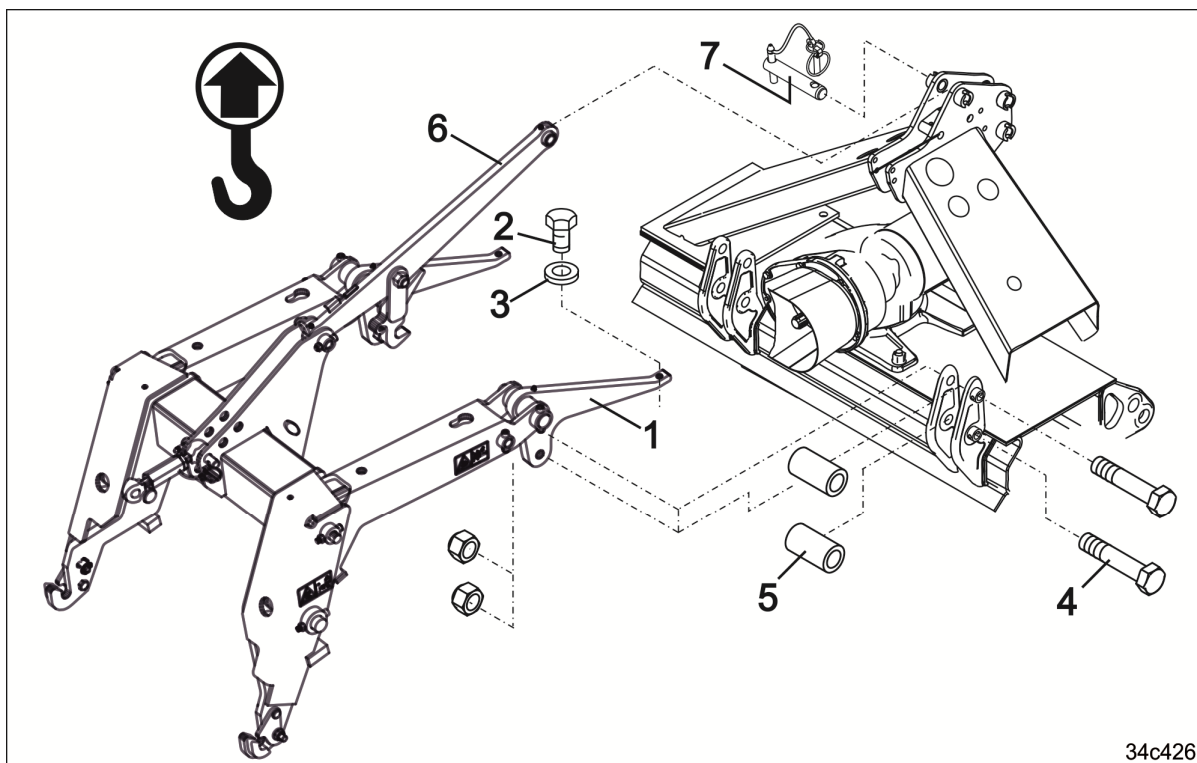

Fig. 81
5. Screw the bracket (Fig. 81/1) to the soil tillage implement using
- o two implement bolts (Fig. 81/2) with washers (Fig. 81/3)
- o 4 bolts (Fig. 81/4) with 4 spacer sleeves (Fig. 81/5).
6. Position the upper link (Fig. 81/6) with a pin (Fig. 81/7) and secure with a lynch pin.